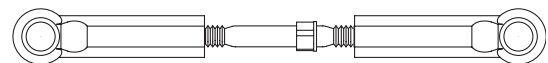

Figure 58B
1. Thread a plastic rod end (4) onto each end of a 1.375" turnbuckle (141). Tighten both rod ends equally until the rod is the same length as the assembled rod in Figure 58B. Make two of these assemblies.